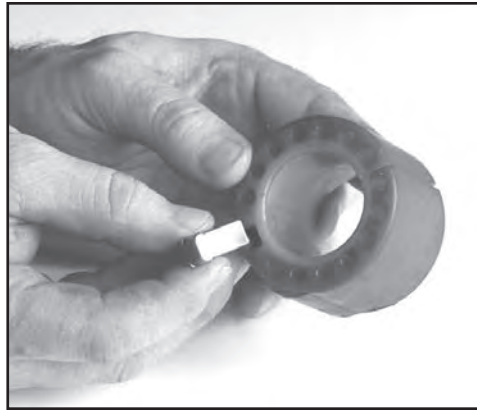

FIG. 42: REMOVE EXHAUST RING SAFETY SEGMENT
5. Remove exhaust ring safety segment (see Fig. 42).